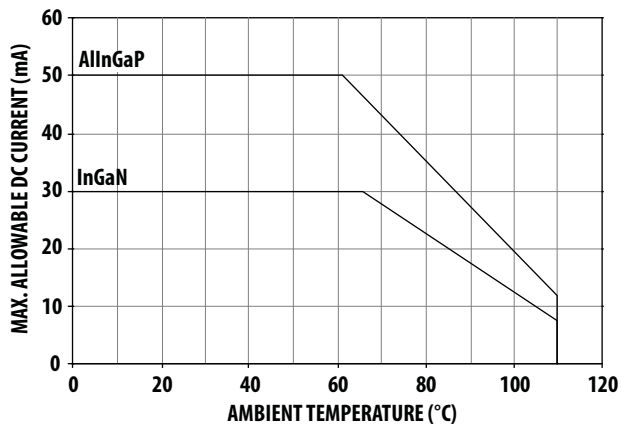
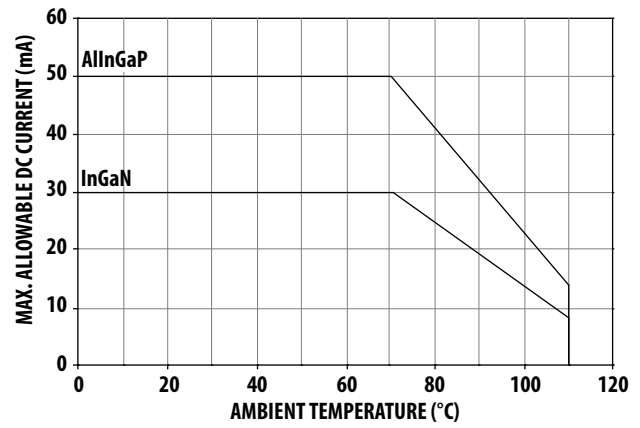

Figure 5a. Maximum forward current vs. ambient temperature. Derated based on $T_{jMAX} = 125^{\circ}\text{C}$. (3 chips)
Figure 5b. Maximum forward current vs. ambient temperature. Derated based on $T_{jMAX} = 125^{\circ}\text{C}$. (single chip)
1. Derate linearly as shown in Figure 5a & 5b.
4. Refer to Figure 5a and figure 5b for more information